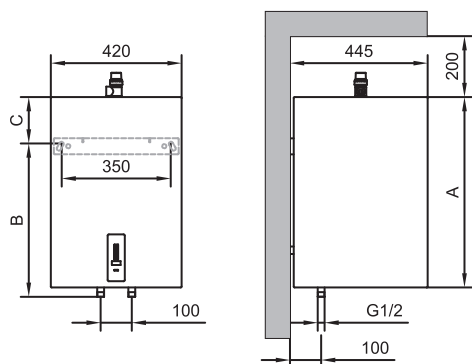
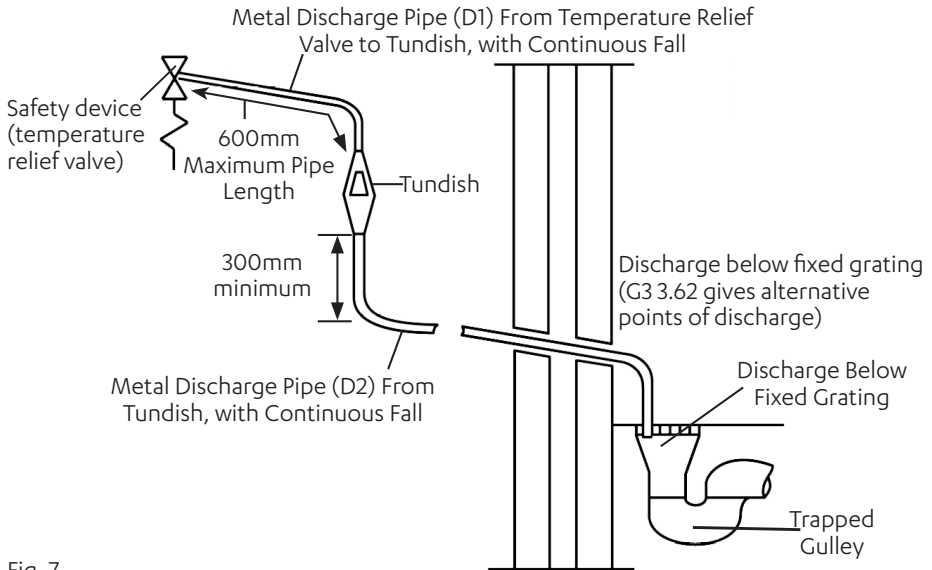

Fig. 3 Vertical installation on a wall
Fig. 7
- To facilitate future service interventions, you are advised to install the heater in accordance with the installation measurements (see Fig. 3 and Fig. 7).